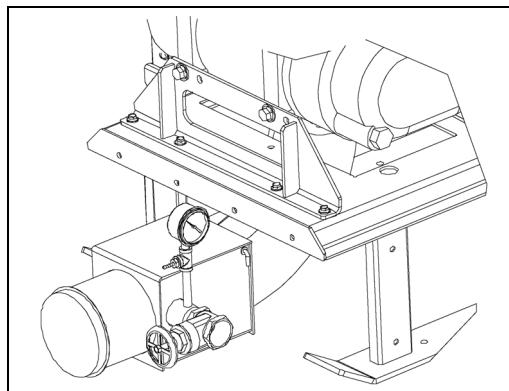

Figure 4P
11. Remove $\frac{1}{4}$ " pipe plug in gate valve pipe. Install gauge assembly and attach air hose. \(See Figure 4P\).